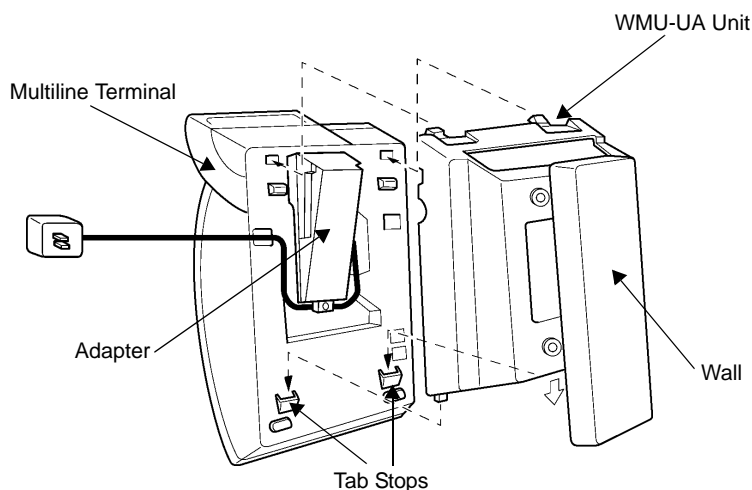

Figure 6-29: Attaching the Multiline Terminal to the WMU-UA Unit
8. With the WMU-UA Unit attached to the wall, hook the two bottom tabs on the WMU-UA Mount Unit into the tab slots on the Multiline Terminal. Then push the two top tabs on the WMU-UA Unit into the tab slots on the Multiline Terminal. If the adapter has a power supply, lead the AC adapter cord out through the opening at the bottom of the Multiline Terminal. Refer to *Figure 6-29: Attaching the Multiline Terminal to the WMU-UA Unit*.